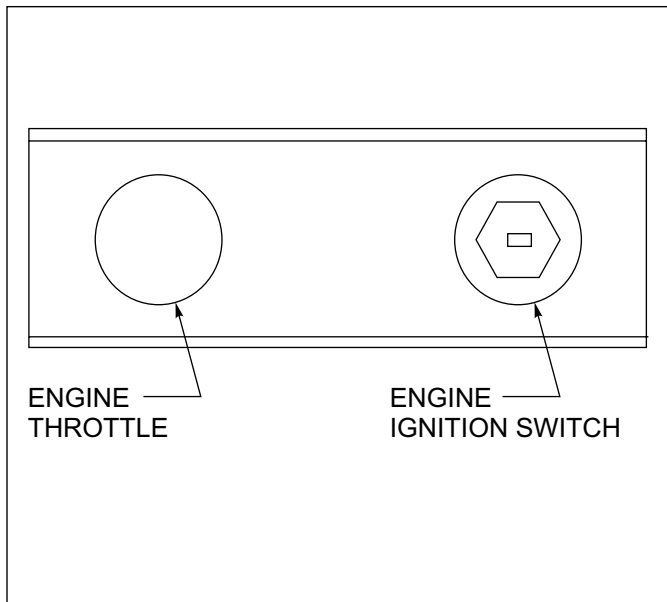

Figure 3-13: Engine Control Panel
1. The Engine Ignition Switch (See Figure 3-13) is located on the engine control panel on the driver's side of the semitrailer. Use the key to start and stop the Hydraulic Power Supply Engine. The Engine Ignition switch has three positions (See Table 3-6.)
2. The Hydraulic Power Supply Engine throttle is located on the driver's side of the semitrailer. The Engine Throttle controls the speed at which the engine operates (See Figure 3-13.) It is a variable position control: